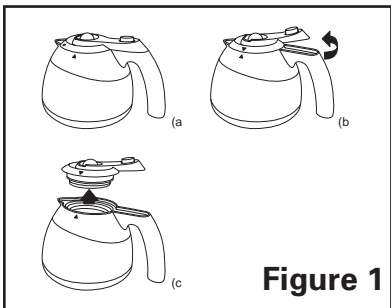

Figure 1
4. Remove Carafe Lid by turning the Carafe Lid handle counter-clockwise until the arrow on the Carafe Lid is aligned with the arrow on the Carafe. Lift Carafe Lid off. (See Figure 1).